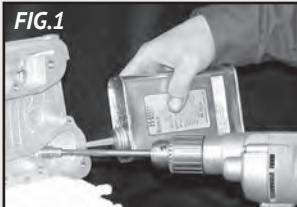

FIG.1
- Insert the reamer pilot in the guide and lubricate with a good quality cutting oil like K-Line Bronze Reamer Lube. (Fig.1)